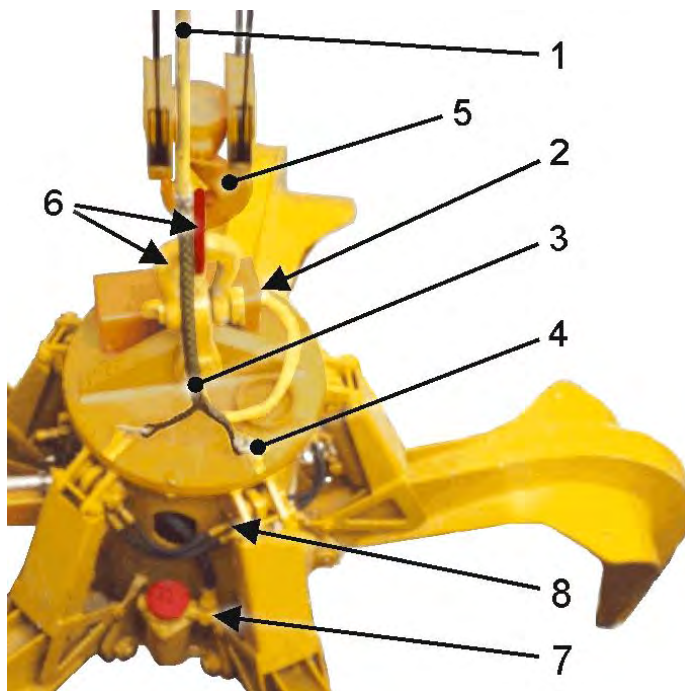

Figure 3.2.1f
12. Fix the tension relief in such a way that the power supply cable does not exert any tension on the plug-in connector (see Fig. 3.2.1f). If the tension relief is not available, fix the power supply cable in such a way that it does not exert any tension on the plug-in connector.